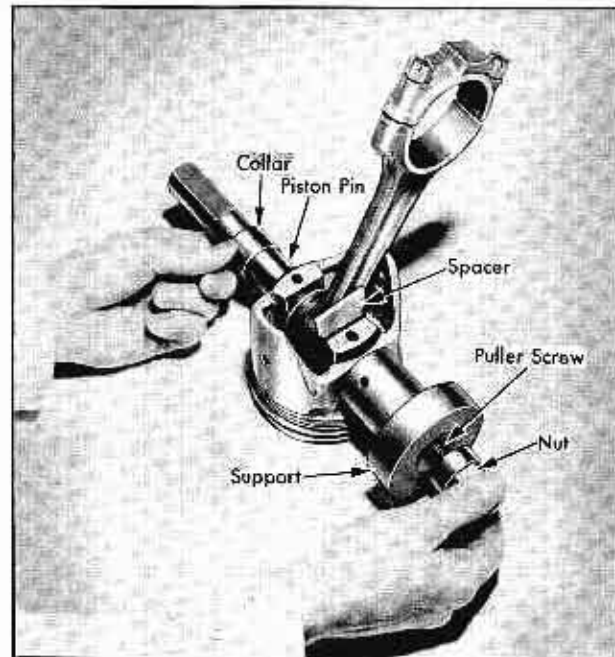

Fig. 10-23 Installing Collar, Support and Puller Nut
7. Install support over puller screw with smaller diameter toward piston, opposite that stamped "REAR", Fig. 10-23.